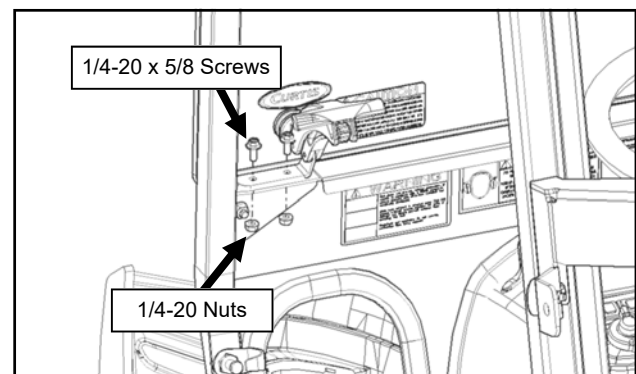

Fig. 11.2 (Secure Windshield Latches)
- 11.2** Secure the windshield latches to the A-pillars with the latches open, and tighten latch hardware. See Fig. 11.2.